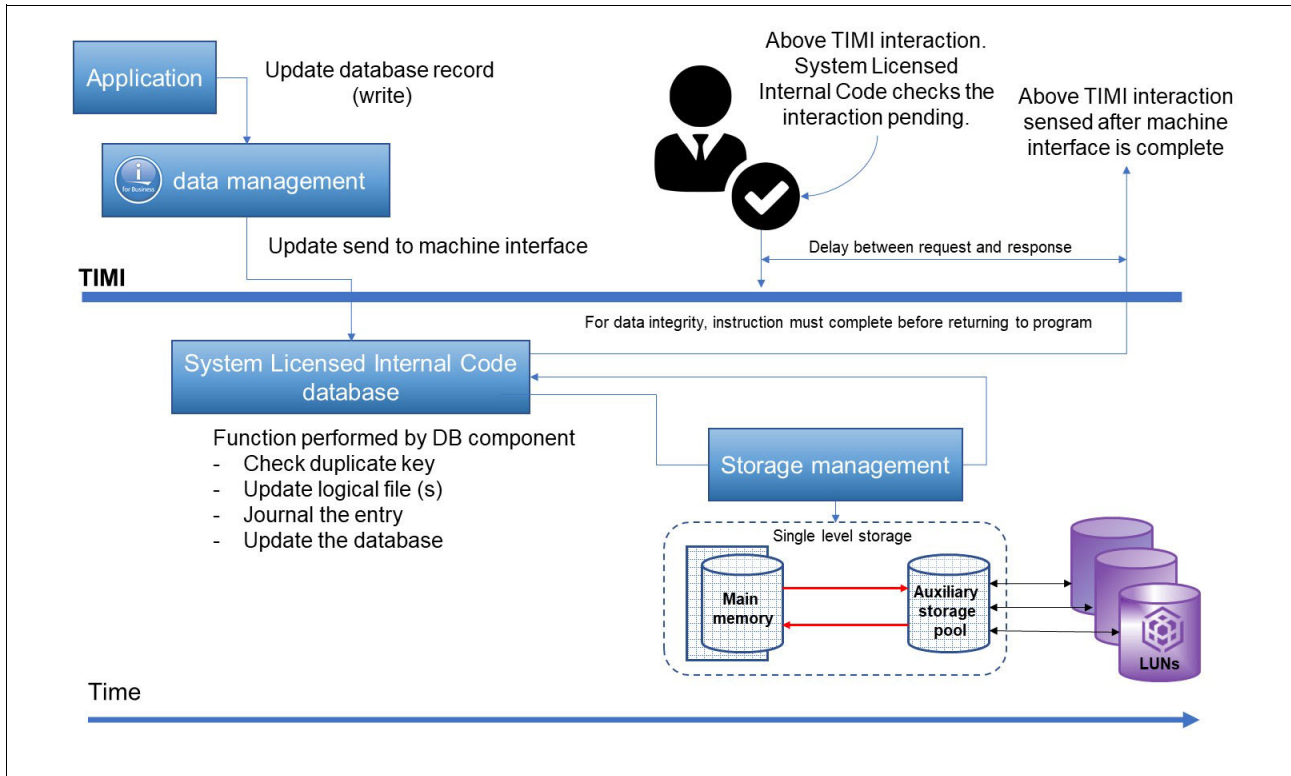

Figure A-4 TIMI atomicity
Single-level storage makes main memory work as a large cache. Reads are done from pages in main memory, and requests to disk are done only when the needed page is not there. Writes are done to main memory and/or main storage, and write operations to disk are performed as a result of swap, file close, or forced write. Application response time depends not only on disk response time, but on many other factors. Other storage-related factors include the IBM i storage pool configuration for the application, how frequently the application closes files, and whether it uses journaling. An example is shown as follows in Figure A-4 on page 529.
**Note:** In Figure A-4 auxiliary storage pool (ASP) is conformed and assigned LUNs from IBM Spectrum Virtualize to the IBM i. It also shows an application requests and updates a database record. Throughout the time TIMI task is in progress, an interaction above TIMI can ensue. Of course, the interaction does not carry out upon until TIMI task concludes.